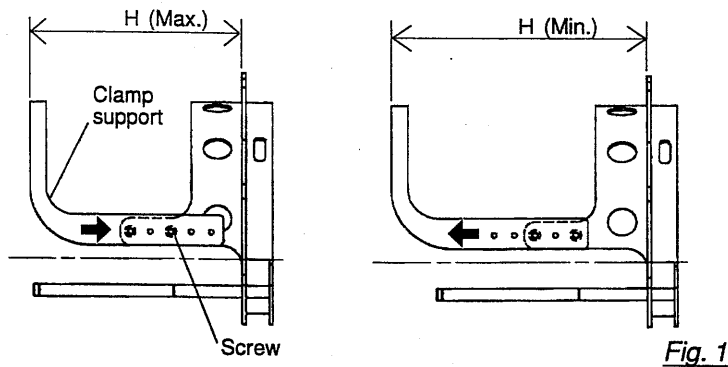

Fig. 1
- 1 Adjust position of clamp support by height of cap. (Fig. 1)